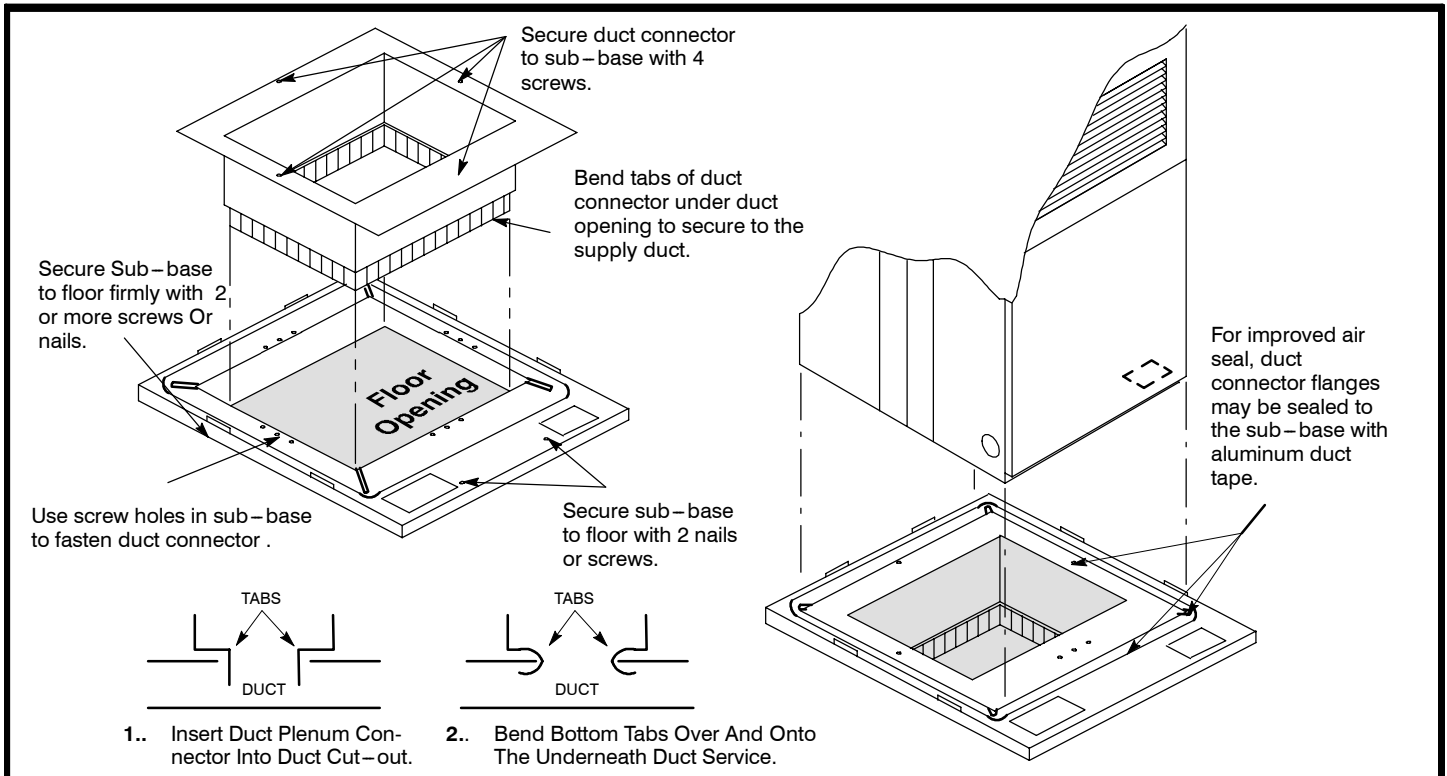

Figure 13 — Sub-base / Duct Connector
Secure duct connector with four (4) sheet metal screws using holes provided in the connector, and the sub-base. See Figure 13.
Secure furnace to wall at top by using metal strap provided. (See Figure 13.)